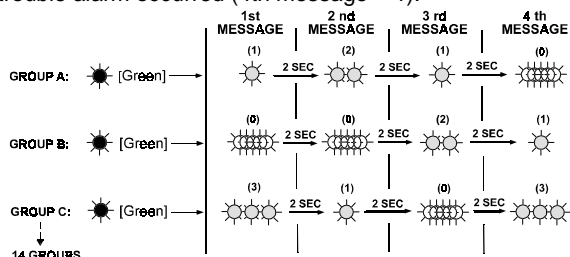

Figure 7. History Display Example
5.4 History Display Structure (Fig. 7)
Each group of coded data contains four messages conveyed by flashing sequences of the red LED, separated by 2-second intervals (see table 2 and Fig. 7).
5.5 History Display Interpretation (Fig. 7)